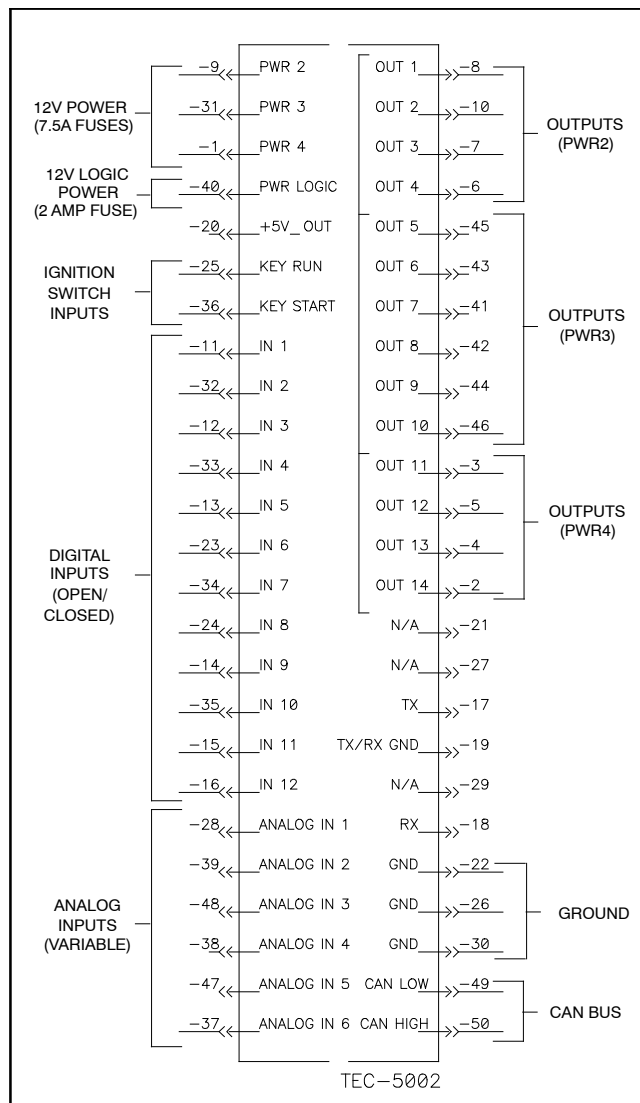
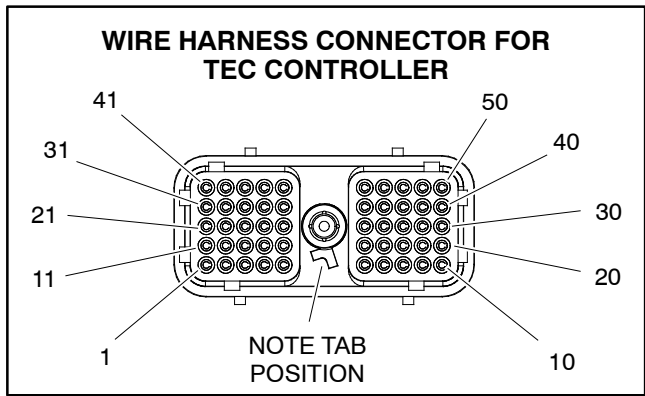

Figure 59
Figure 60
The diagram in Figure 59 depicts the connection terminal functions for the TEC controller. Note that electrical power for controller outputs is provided through three (3) connections (PWR 2, PWR 3 and PWR 4) each protected with a 7.5 amp fuse. A fifty (50) pin wire harness connector attaches to the controller. The connector pins are identified in the diagram in Figure 59. The layout of the wire harness connector that plugs into the TEC controller is shown in Fig. 60.